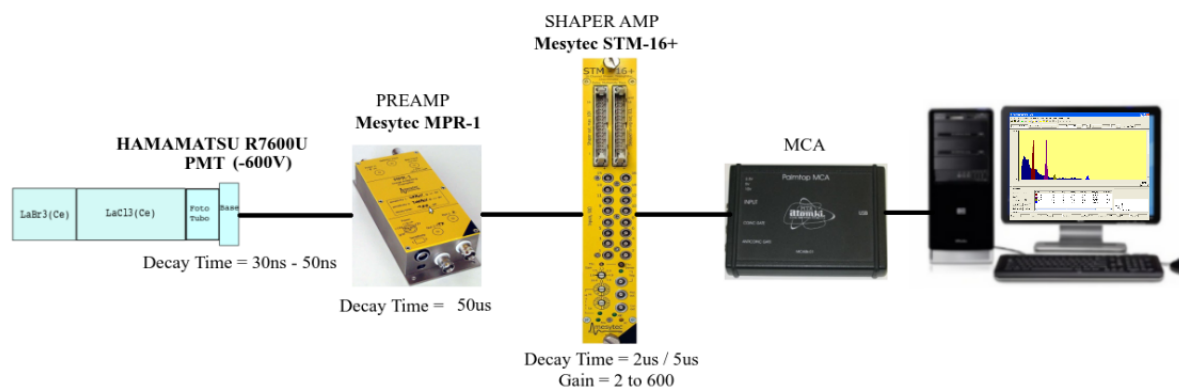

Figure 1. Analog Readout Electronic System.
The analogue readout electronic system used in LAB3A, Fig. 1, is composed of a charge integrating preamplifier (PA) and a shaping amplifier (A). The signal from the detector is a quantity of charge delivered as a current pulse lasting from 10^{-9} to 10^{-5} s, depending on the type of detector and its size. For most applications the parameters of interest are the quantity of charge.